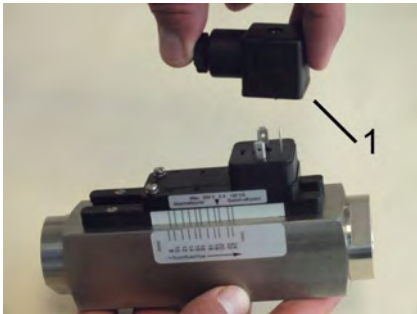

Fig. 24: Remove socket
2. ➔ Remove the socket (Fig. 24/1)